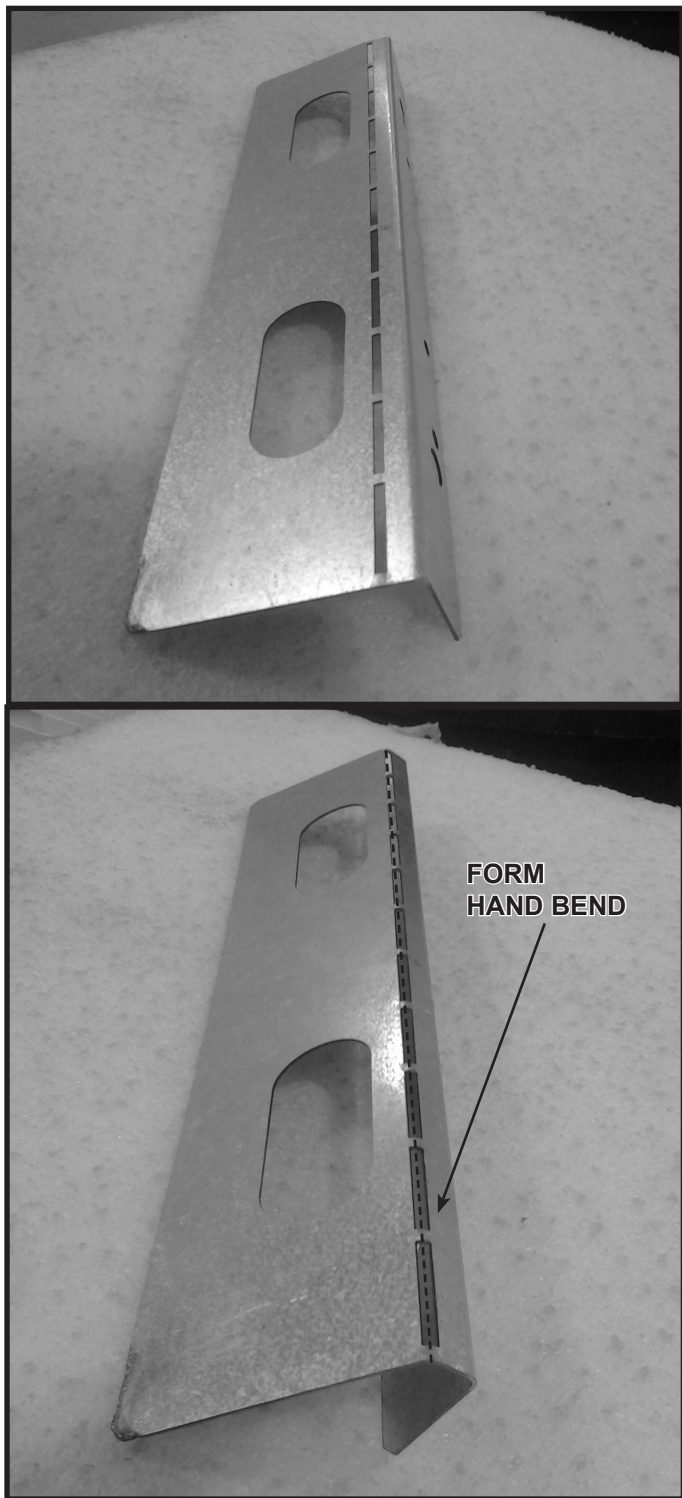

Figure 10.15 Form Transition Glass Panel Bracket
8. Install glass transition panel bracket on left and right sides of appliance opening using two self-tapping screws. See Figures 10.15, 10.16 and 10.17 for details.